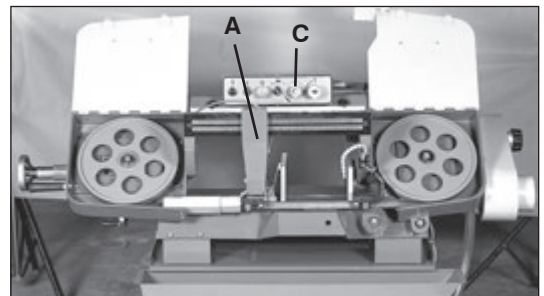

Fig. 11
5. Make sure the left blade guide bracket (A) is adjusted as close as possible to the left vise jaw (B) Fig.11.
6. Turn the hydraulic regulating micro switch (C) Fig.11, counter-clockwise until the saw blade begins to lower at the desired rate.
7. Proceed to cut through the workpiece, as shown in Fig.11. The machine will shut off upon completion of cut.